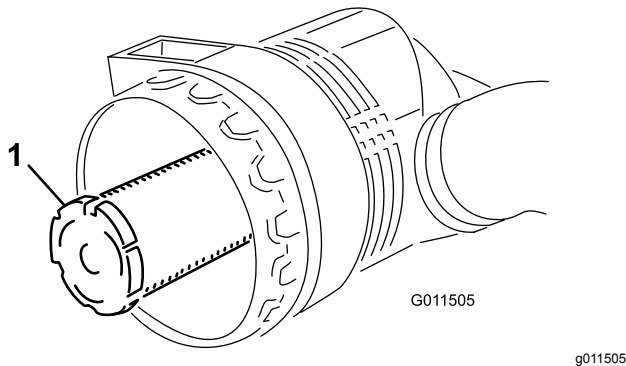

Figure 73
body. Do not use a damaged element. **Do not** remove the safety filter (Figure 73).
**Important:** Never attempt to clean the safety filter (Figure 73). Replace the safety filter with a new one after every three primary filter services.